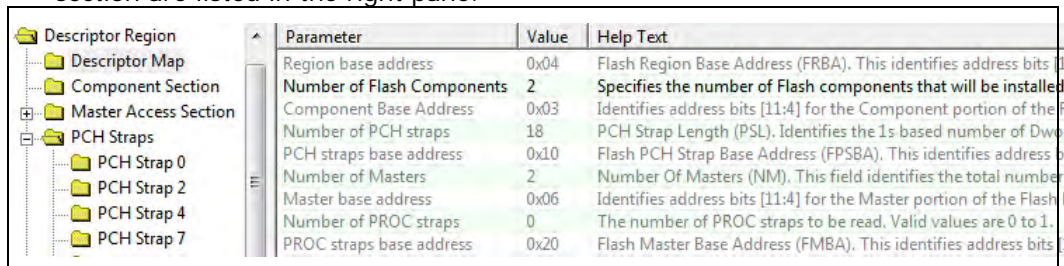

Figure 23: Descriptor Region > Descriptor Map Parameters
2. Select **Descriptor Map** (see Figure 23); all the parameters in the Descriptor Map section are listed in the right pane.